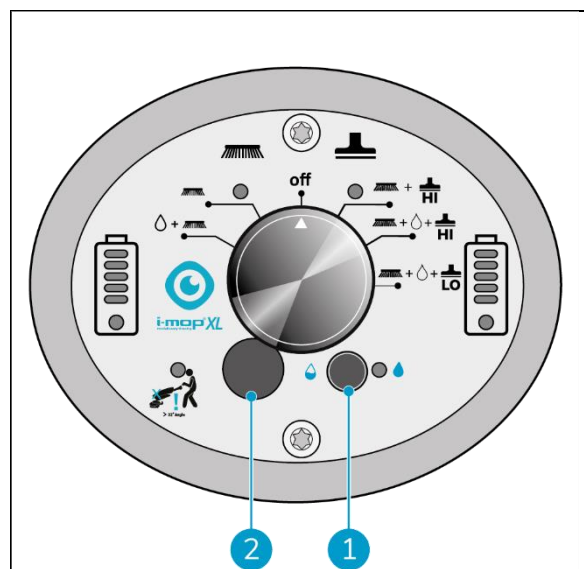

Figure 24
1. Turn on the ECO mode by pushing the ECO button after you have selected your cleaning mode (Figure 24, pos. 1).
3. To adjust water flow when ECO mode is activated, you can remove the rubber cap (Figure 24, pos 2) and use a small flathead screwdriver to change the flowrate on the dial below the cap. See flowrate table below.